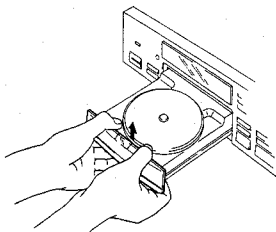

Fig. 1
- 1 Use nippers or other tool to cut the two sections marked ② in figure 1. Then remove the spacer.
- 2 While supporting the spindle motor shaft with the stopper, put spacer on top of the motor base (angled so it doesn't touch section ②), and stick the disc table on top (takes about 9kg pressure). Take off the spacer.
Hold the tray panel with your hands as the figure shown right, and grasp the tray with your thumbs and then lift the tray panel up while pulling it toward you with the other fingers. (Figs. 1 and 2)